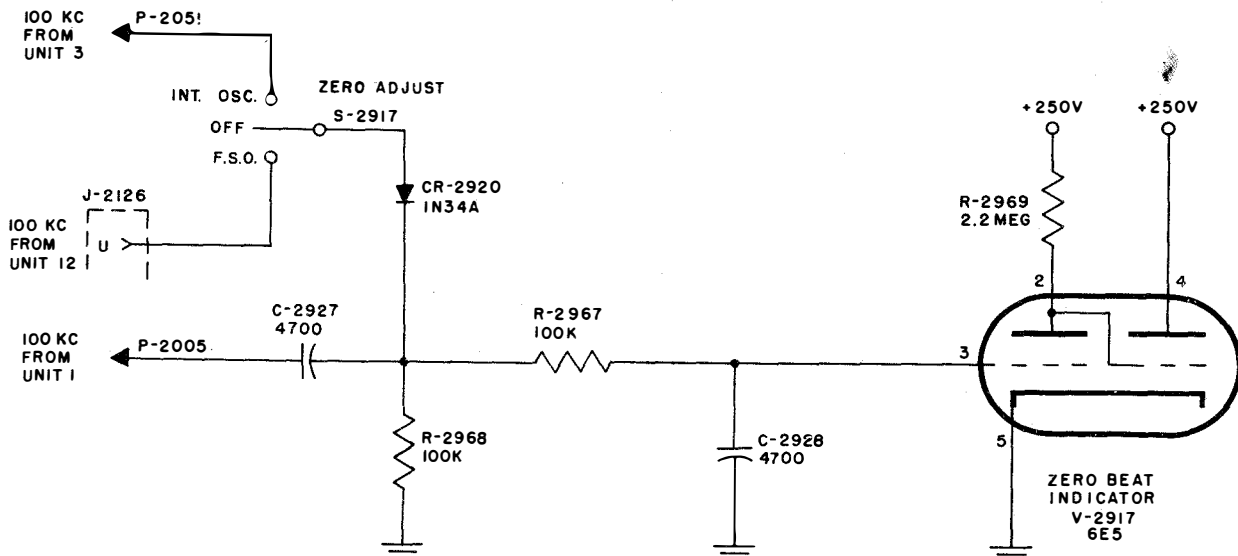

Figure 2-41. Zero Adjust Indicating Circuit, Simplified Schematic
(4) ZERO ADJUST INDICATING CIRCUIT.— The zero adjust indicator circuit (figure 2-41) provides a means for comparing the 100-kc output from the frequency-shift oscillator (unit 12) or the 100-kc output from the interpolation oscillator (unit 3) with the standard 100-kc signal from the crystal-controlled oscillator (unit 1). The outputs from unit 3 and unit 12 are connected to the ZERO ADJUST switch (S-2917). In the INT. OSC. position the signal from unit 3 is connected to the circuit. When S-2917 is set at the F.S. OSC. position, the signal from unit 12 is fed to the circuit. The signal to be compared is connected to the plate of crystal rectifier CR-2920 while the standard